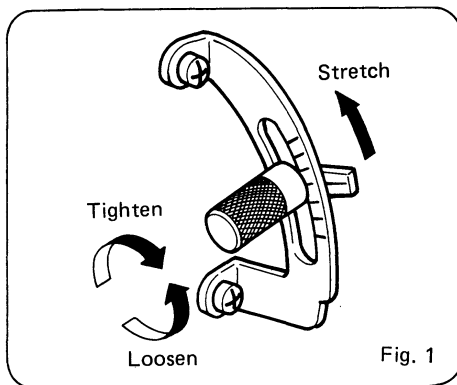

Fig. 1
- Slide adjusting lever upward above the center mark, as required, to stretch, and tighten the thumb screw (Fig. 1)